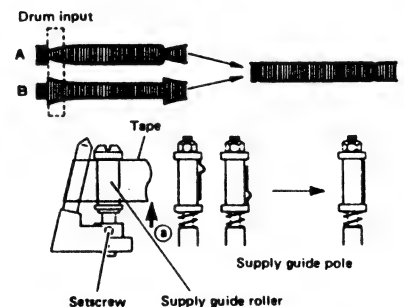

Fig. 2-41 Drum input adjustment
4. Refer to Fig. 2-41. Examples of incorrect waveforms are shown by A and B.
5. Observe the top edge of the tape travels along the lower face of the upper flange and check the waveform does not fluctuation as the tape is lightly pushed up at point (a) as shown in Fig. 2-41.